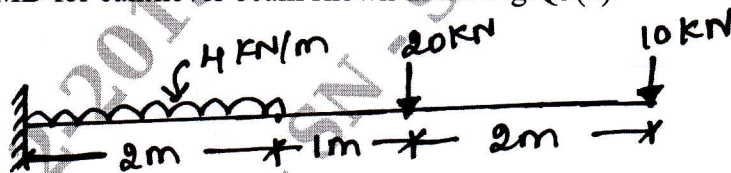

Fig.Q3(b)
b. Draw SFD and BMD for cantilever beam shown in the Fig.Q3(b).